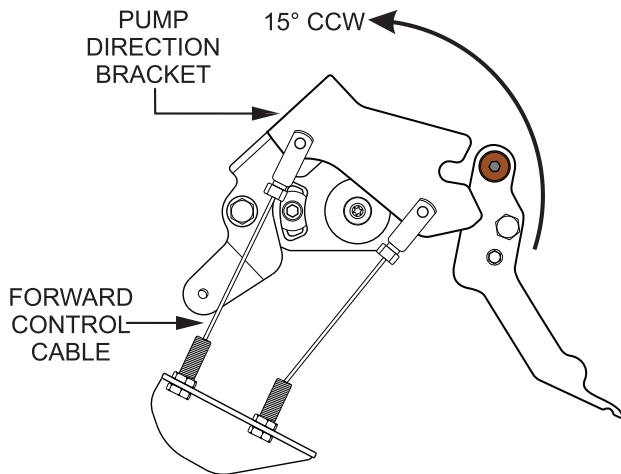

Figure 50. Pump Direction Bracket (CCW15°)
5. Once the correct gap has been established and the forward control lever is fully engaged, verify that the **pump direction bracket** (Figure 50) rotates about 15° CCW.